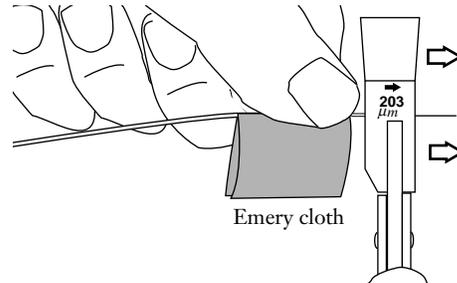

Figure 9
**4.10** Using the No-Nik stripping tool, remove the tight-buffered coating in 6 mm (0.25 in.) increments until the desired length is obtained (Figure 9).